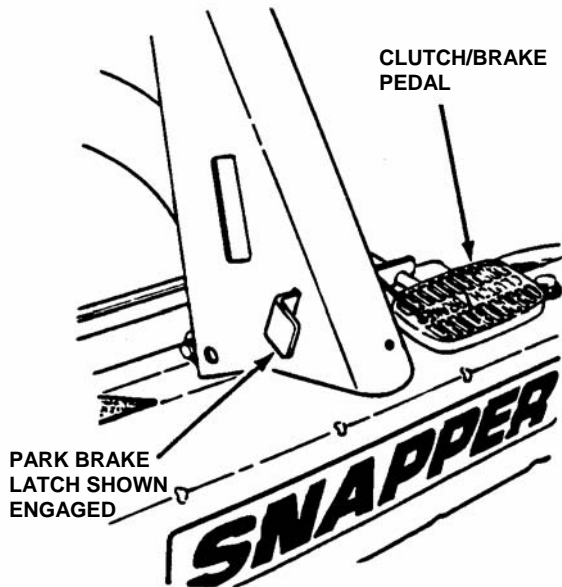

FIGURE 2.16
1. Engage park brake by pushing clutch/brake pedal "DOWN" and moving the park brake latch to the "ENGAGED" position. While holding the park brake latch "ENGAGED", release clutch/brake pedal to set park brake. See Figure 2.16.